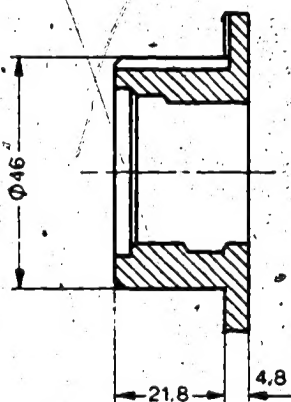
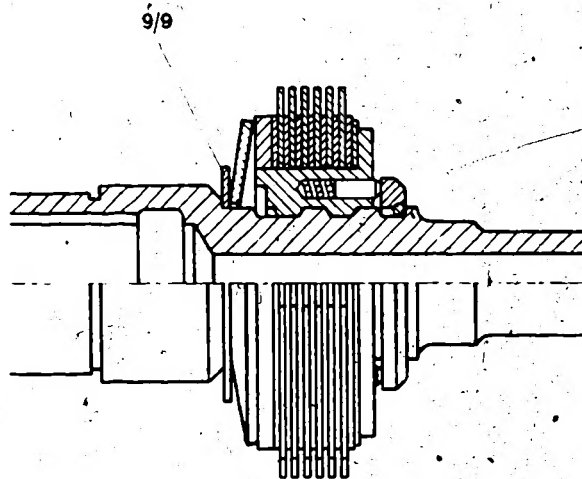
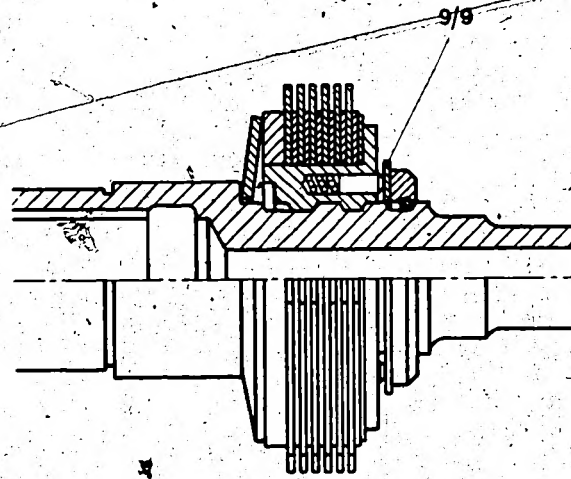

Fig. 2 Coupling half
Fig. 5 Old type
Fig. 6 New type
Fig. 2 new type
The installation positions of the conical spring washer (pos. 72); the helical compression springs with the straight pins, the shim (pos. 71/1) and the shims (pos. 74) can be seen from the section drawing (fig. 2).
- 1.6. Coupling half (Item 9/7) : The coupling half is now extruded, its diameter being 46 mm (Fig. 2). There is no change in the helical compression springs (Item 9/7/3) and straight pins (Item 9/7/4).
The coupling half (Fig. 4) of the parts set differs from the series-produced model (Fig. 2) in its dimensions. It must be used when repairing the new and old armature shafts. The shim (Item 9/9) continues to be supplied and is to be fitted in accordance with Fig. 5 or 6 when carrying out repair work.
The shim (Item 9/9) must be fitted in accordance with Fig. 6 when carrying out repair work on the new multiplate clutches, and according to Fig. 5 (clutch chamfered) in the case of old-type clutches.